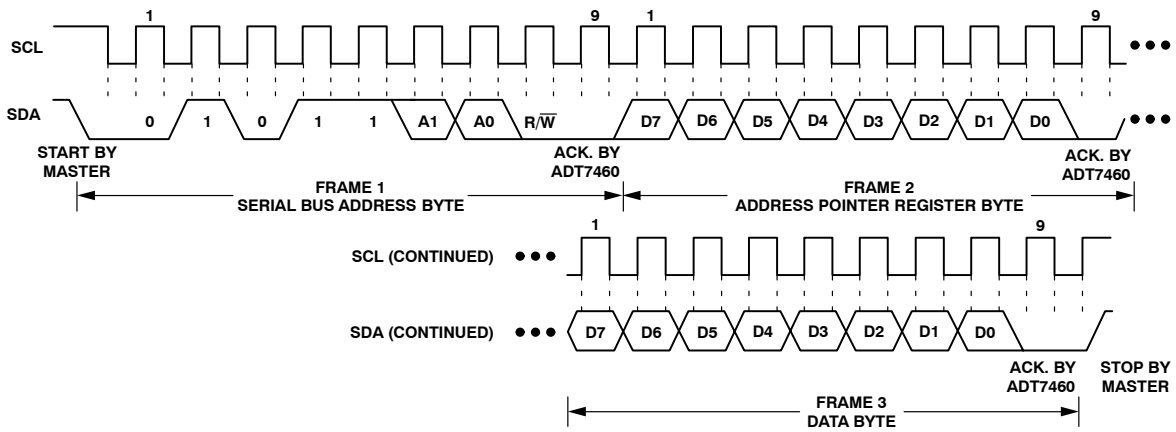
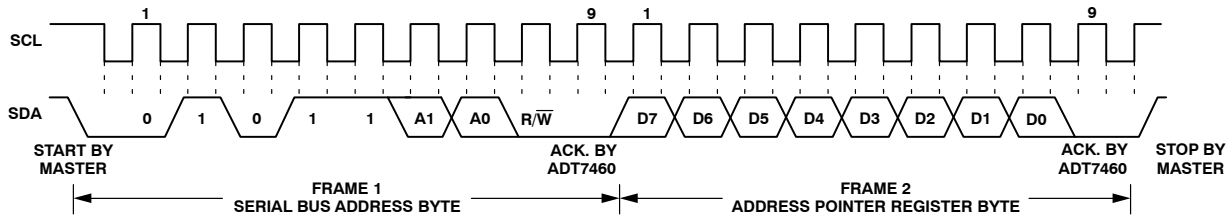
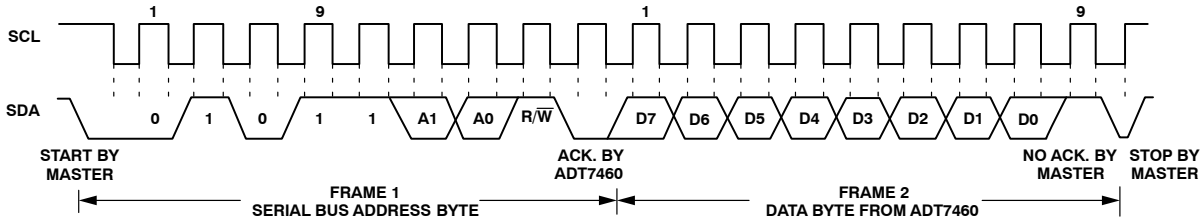

Figure 17. Writing a Register Address to the Address Pointer Register, then Writing Data to the Selected Register
Figure 18. Writing to the Address Pointer Register Only
Figure 19. Reading Data from a Previously Selected Register
This is illustrated in Figure 17. The device address is sent over the bus followed by $\overline{\text{R/W}}$ being set to 0. This is followed by two data bytes. The first data byte is the address of the internal data register to be written to, which is stored in the address pointer register. The second data byte is the data to be written to the internal data register.
1. If the ADT7460's address pointer register value is unknown or not the desired value, it is first necessary to set it to the correct value before data can be read from the desired data register. This is done by performing a write to the ADT7460 as before, but only the data byte containing the register address is sent because data is not to be written to the register. This is shown in Figure 18. A read operation is then performed, consisting of the serial bus address, R/W bit set to 1, followed by the data byte read from the data register. This is shown in Figure 19.
2. If the address pointer register is known to be already at the desired address, data can be read from the corresponding data register without first writing to the address pointer register, so Figure 18 can be omitted.
In Figure 17 and Figure 19, the serial bus address is shown as the default value 01011(A1) (A0), where A1 and A0 are set by the address select mode function previously defined.